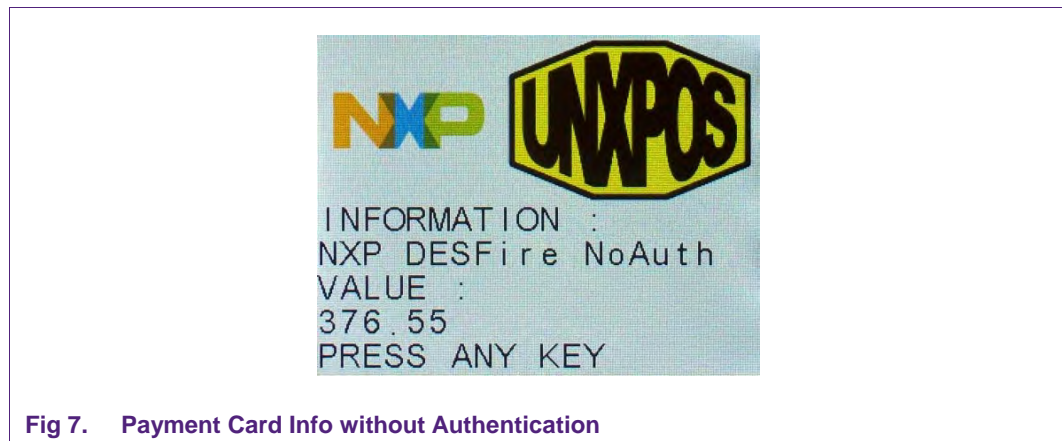

Fig 7. Payment Card Info without Authentication
3. Put the MIFARE DESFire Card on the antenna of the reader. As shown in Fig 7 'NXP DESFire NoAuth' and the remaining value is now displayed.